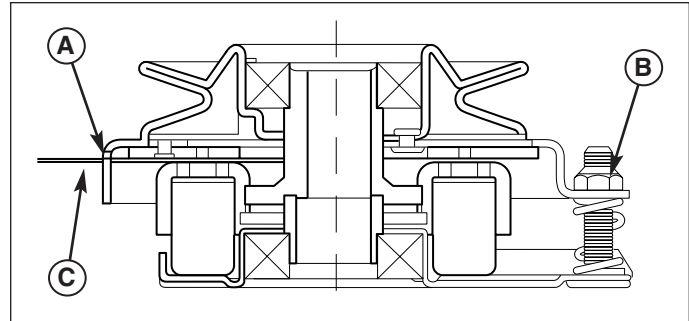

Figure 27. Adjust PTO Clutch
3. Insert a .016"-.018" (0,40-0,45mm) feeler gauge (C) through each window, positioning the gauge between the rotor face and the armature face as shown in Figure 27.